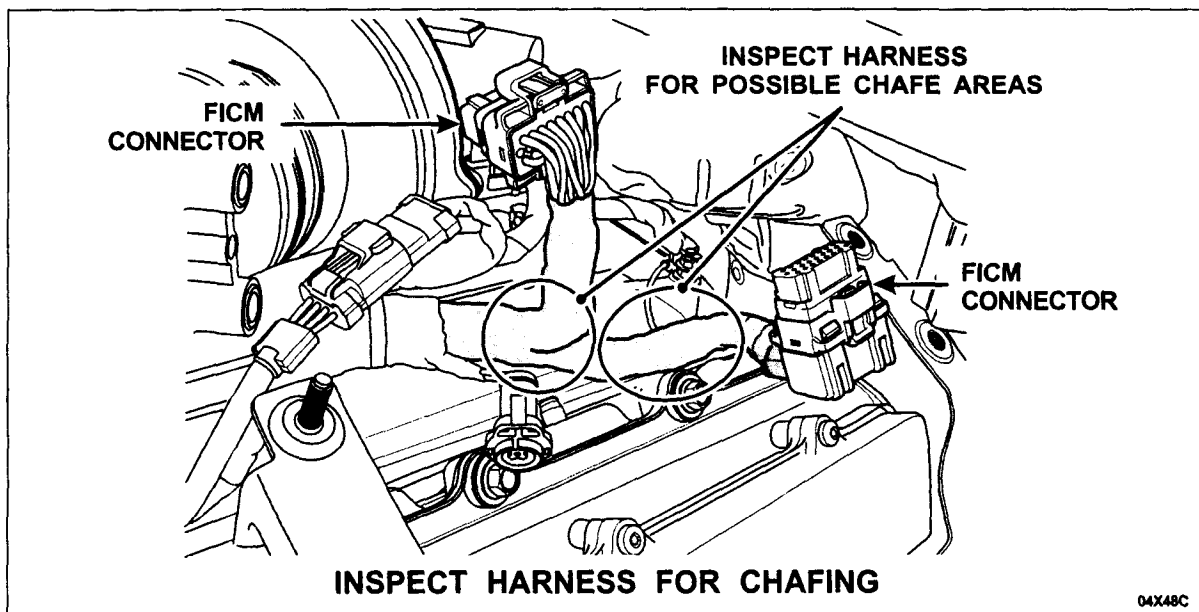

FIGURE 3
6. Disconnect the two (2) rear fuel injector connectors and roll the FICM harness over to view the underside of the two (2) injector harness take-outs leading to the FICM.
7. Inspect the underside of the injector harness in the two (2) areas noted in the illustration. See Figure 3.